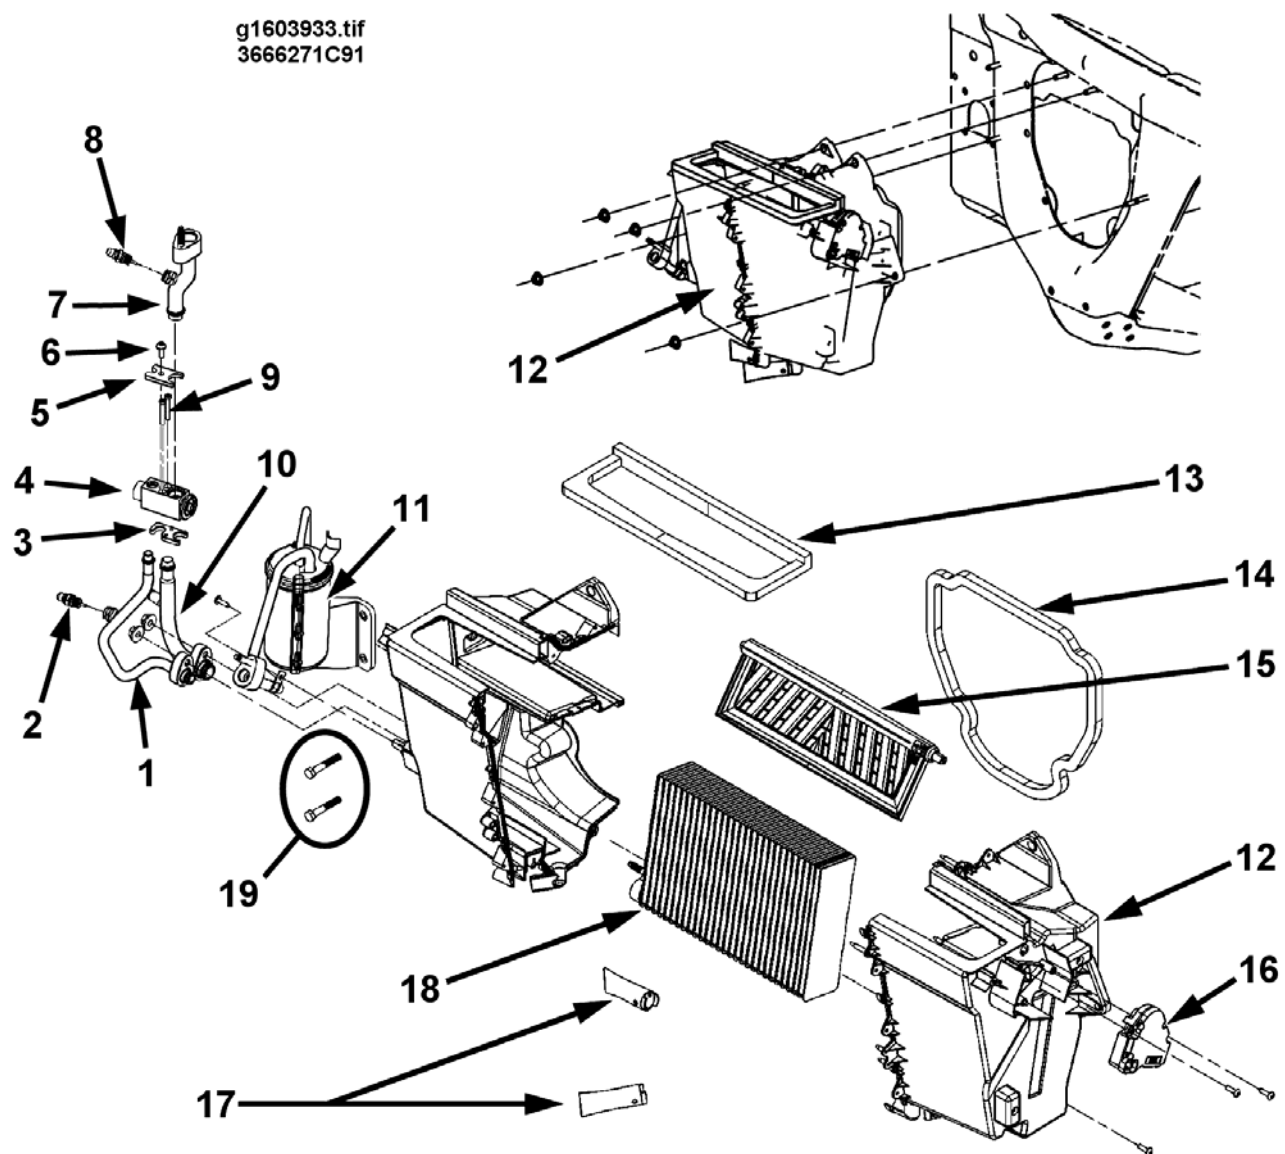
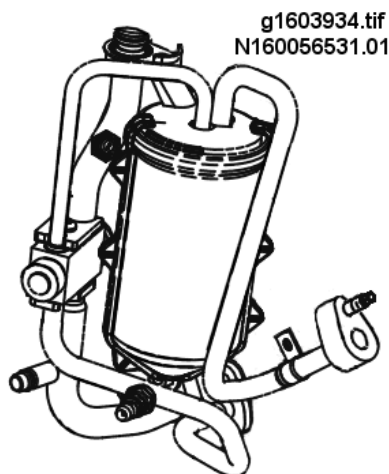

Figure 33 Evaporator Housing Mounting and Components
Figure 34 Filter-Drier, Expansion Valve, and Associated A/C Lines
8. Disconnect wiring connector to actuator motor for fresh/recirc air door (16, Figure 33).
9. Remove four nuts securing evaporator housing (12, Figure 33) to mounting studs on cowl.
11. To remove recirc door actuator (16, Figure 33), remove two screws securing actuator to evaporator housing (12).
12. Remove drain tubes (17, Figure 33) from evaporator housing.
13. Remove filter-drier, expansion valve, and associated a/c lines, as an assembly (Figure 34), as follows.
- b. Remove nuts securing evaporator inlet and outlet lines (1 and 10, Figure 33) to the evaporator core inlet and outlet fittings.
- c. While supporting filter-drier (11, Figure 33), remove two mounting bolts (19) securing filter-drier to evaporator housing.
15. Remove and discard mounting gaskets (13 and 14, Figure 33) if they are damaged during separation.
4. If fresh/recirculate air door actuator (16, Figure 33), was previously removed, install actuator by rotating door until flats on door shaft align with actuator hub, if possible. If actuator drive collar must be moved to allow alignment:
6. Install drain tubes (17, Figure 33).
7. Using a new gasket/seal (14, Figure 33), install evaporator housing (12) onto mounting studs located on cowl using four nuts. Tighten to 5,400 to 7,600 N.mm (47.5 to 67.5 lbf-in).
8. Place new O-rings and C-plates on evaporator inlet and outlet lines (1 and 10, Figure 33).
9. Place filter-drier/expansion valve assembly (Figure 34) into its approximate position by inserting evaporator inlet and outlet lines into evaporator core inlet and outlet fittings; AND loosely installing the two filter-drier mounting bolts (19, Figure 33). (Filter-drier mounting bolts must be loose enough to allow proper alignment of evaporator inlet and outlet fittings while supporting the weight of the filter-drier.)
18. Connect wiring connector to actuator motor (16, Figure 33) for fresh/recirc air door.